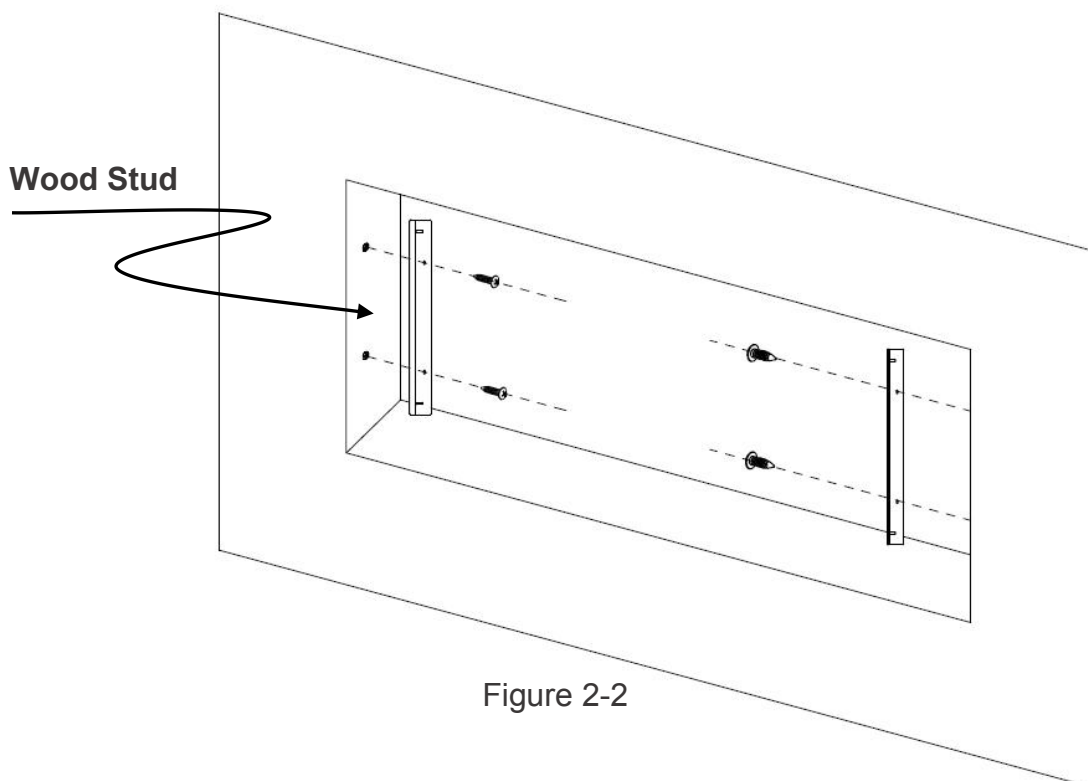

Figure 2-2
- C. Fix the two metal brackets (1 per side), with 4 screws (supplied) through wood stud. (**Figure 2-2**)